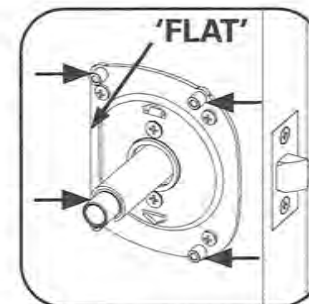

Figure 6
2.3: Place the Pürleve Mounting Plate onto the door hardware. The FLAT side of the mounting plate should be on the 'Far Side' from the edge of the door. Bosses of mounting plate should face OUT (away from door). (**Fig. 6**)